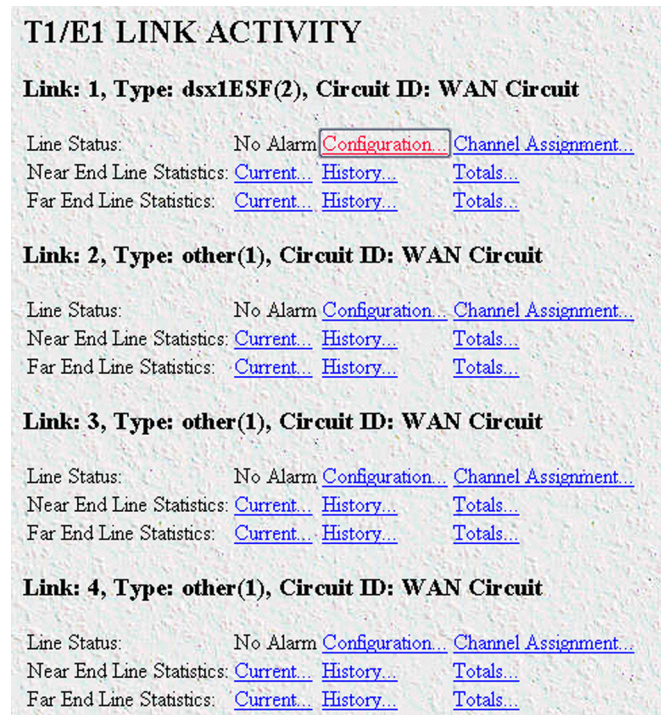

Figure 32. T1/E1 Link Activity window
1. Select T1/E1 Link on the Configuration Menu. The T1/E1 Link Activity window appears (see figure 32).
1. Select T1/E1 Link on the Configuration Menu. The T1/E1 Link Activity window appears (see figure 32 on page 49).